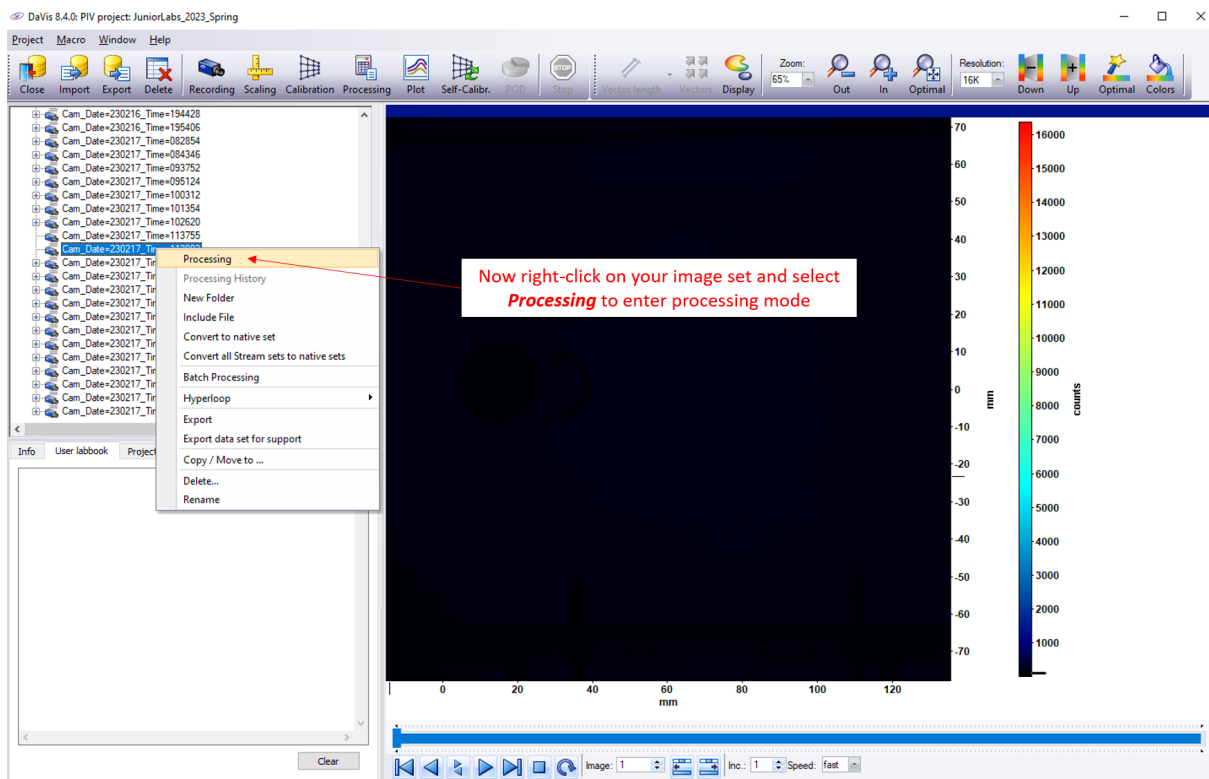

Figure 11: How to enter the "Processing" module.
- Under the drop-down list click right-click and select "Processing", see Figure 11.